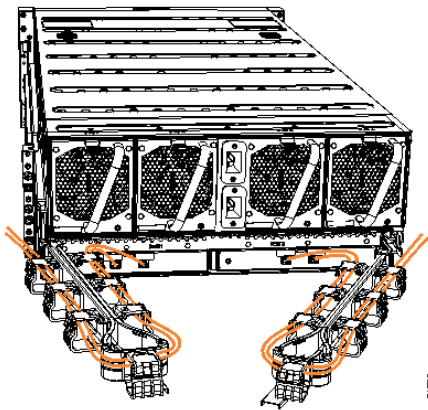

Figure 177. Example of SAS cables routed through the cable management arms
8. Route the SAS cables through the cable management arms, as shown in Figure 177 on page 206.